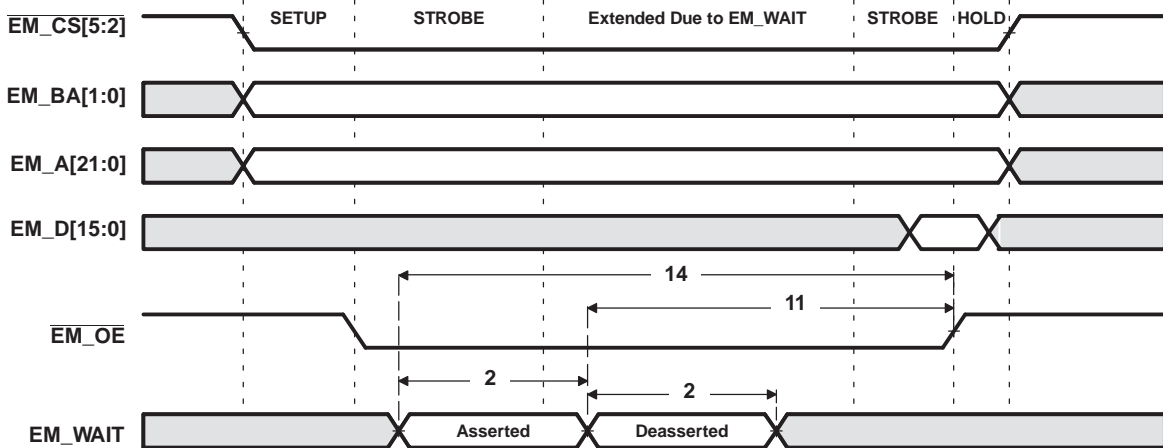
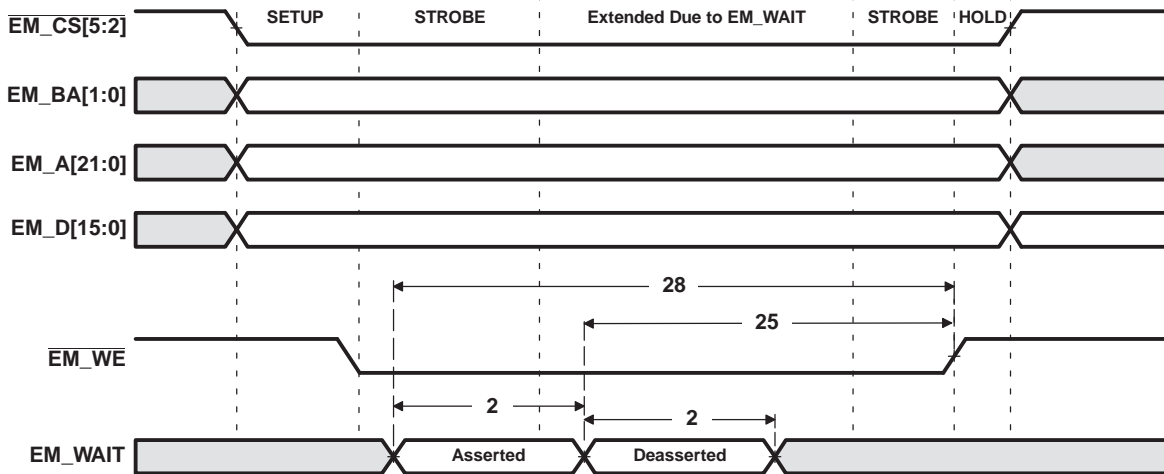

Figure 6-23. EM_WAIT Read Timing Requirements
Figure 6-24. EM_WAIT Write Timing Requirements
(1) E = SYSCLK5 period in ns for EMIFA. For example, when running the DSP CPU at 594 MHz, use E = 10.1 ns.
(2) Setup before end of STROBE phase (if no extended wait states are inserted) by which EM_WAIT must be asserted to add extended wait states. Figure 6-23 and Figure 6-24 describe EMIF transactions that include extended wait states inserted during the STROBE phase. However, cycles inserted as part of this extended wait period should not be counted; the 4E requirement is to the start of where the HOLD phase would begin if there were no extended wait cycles.